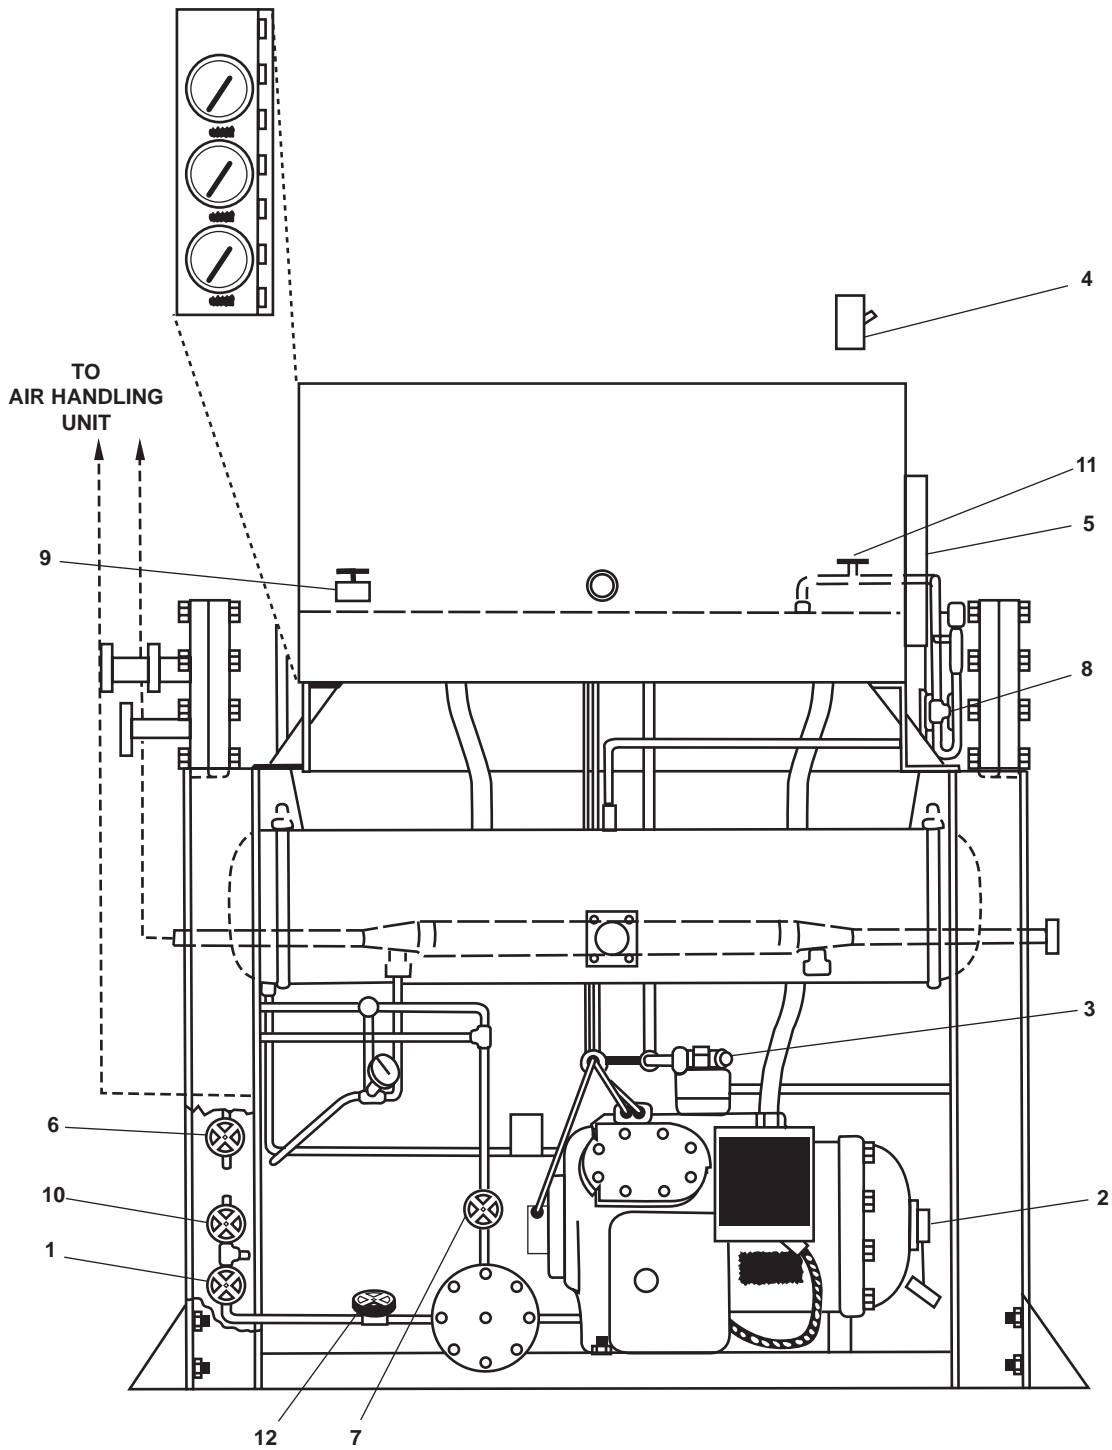

Figure 1. Condensing Unit Valves and Switches
1. Place the dehydrator inlet valve (figure 1, item 1) at all operating condensing units to the CLOSED position.
3. Place the compressor suction valve (figure 1, item 2) of each condensing unit in the CLOSED position.
4. Place the compressor discharge valve (figure 1, item 3) of each condensing unit in the CLOSED position.
- a. Main power disconnect switches (figure 1, item 4)
- b. Power ON/OFF switches (figure 1, item 5)
- c. Condenser outlet valve (figure 1, item 6)
- d. Dehydrator outlet valve (figure 1, item 7)
- e. Dehydrator inlet valve (figure 1, item 1)
- f. Equalizing line valve (figure 1, item 8)
- g. Water regulator valve actuating line valve (figure 1, item 9)
- h. Compressor suction valve (figure 1, item 2)
- i. Dehydrator bypass valve (figure 1, item 10)
- j. Purge valve (figure 1, item 11)
- k. Charge and drain valve (figure 1, item 12)